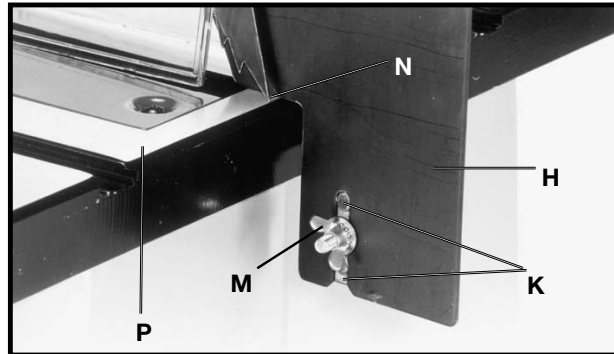

Fig. 20
8. Fasten splitter (H) Fig. 20, to splitter support bracket using 1/4 in. flat washer, 1/4 in. external tooth lockwasher and M6 wing nut (M). **NOTE:** Before tightening wing nut (M) make certain there is at least a 1/8 in. gap between the bottom edge of splitter (N) and top surface of table (P) and that protrusion "pins" (K) Fig. 20, are inside the slot of splitter assembly (H).